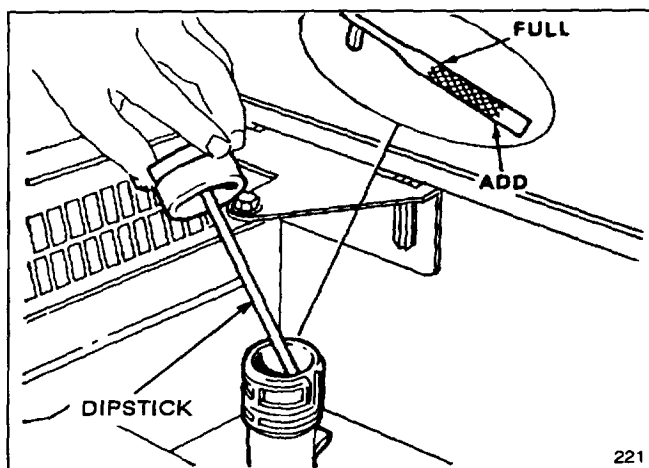

Figure 6
Before each use, assure oil level is between ADD and FULL marks on dipstick (Fig. 6). Add oil if level is low.
1. Position mower on a level surface and clean around oil dipstick (Fig. 6).
3. Wipe dipstick and insert it into filler neck. Rotate cap clockwise 1/4 turn. Then remove dipstick and check level of oil (Fig. 6). If level is low, add only enough oil to raise level to FULL mark on dipstick. **DO NOT FILL ABOVE FULL MARK BECAUSE ENGINE COULD BE DAMAGED WHEN STARTED.**
1. CHECK OIL LEVEL—Maintain oil level between ADD and FULL marks as shown on dipstick (Fig. 6).